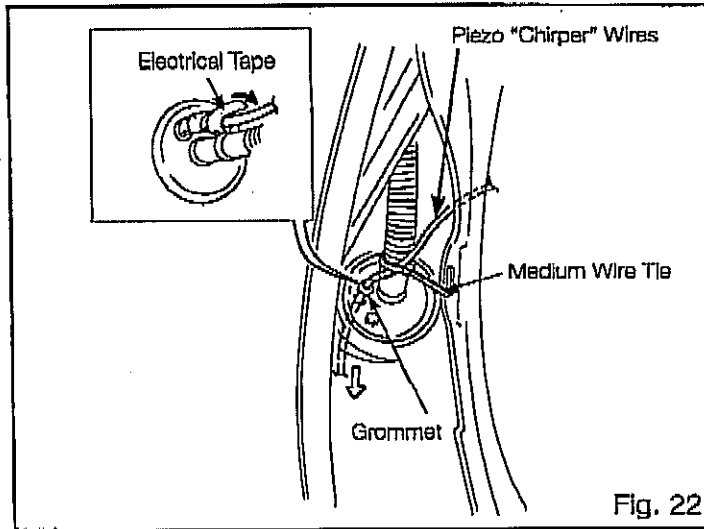

Fig. 22
- (5) A) Route the entire length of the Piezo "Chirper" wires through the grommet into the passenger compartment, and secure them to the vehicle's wire harness with one medium wire tie as shown. Fig 22
- B) Wrap electrical tape around the grommet's nipple and the Piezo "Chirper" wires. Fig 22